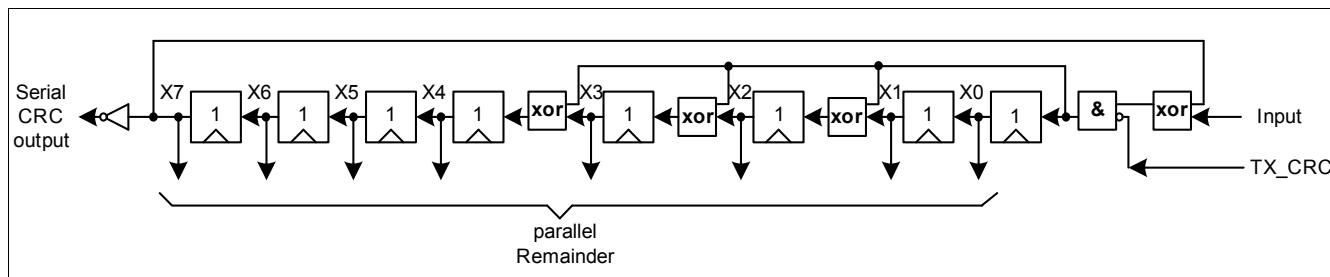

Figure 4-14 Fast CRC polynomial division circuit
- Generator polynomial: $X8+X4+X3+X2+1$, but for the CRC generation the fast-CRC generation circuit is used (see Figure 4-14)